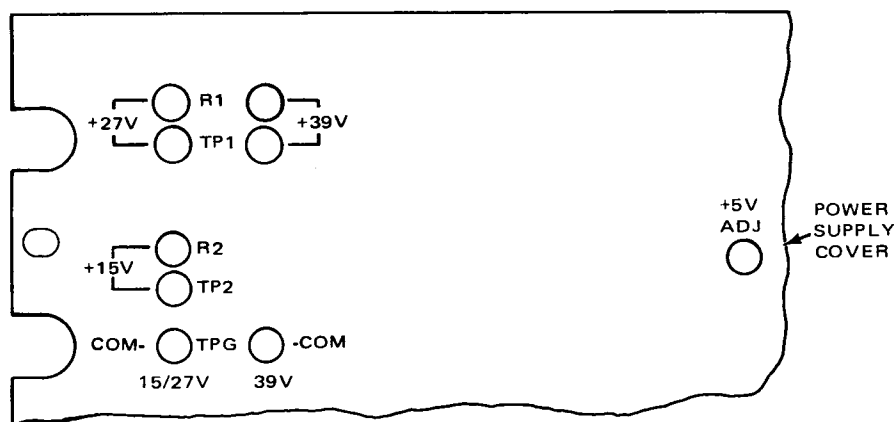

Figure 5-1. Power Supply Test Points and Adjustments
2. Connect a multimeter to 39V-TP1 (positive) and TP G (common). See Figure 5-1.
5. Adjust the +5V ADJ potentiometer at the rear of the power supply (Figure 5-1) for an indication of 5 ± 0.1 volts on the multimeter.